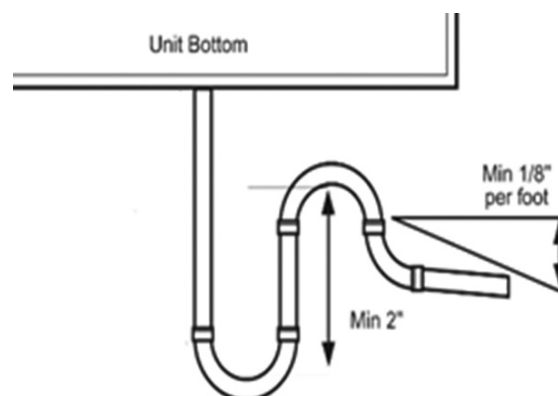

Figure 17. P-trap Installation
- Pitch the condensate drain line minimum of 1/8" per linear foot and support the pipe with code-approved hangers at least every 5 feet (see Figure 17).